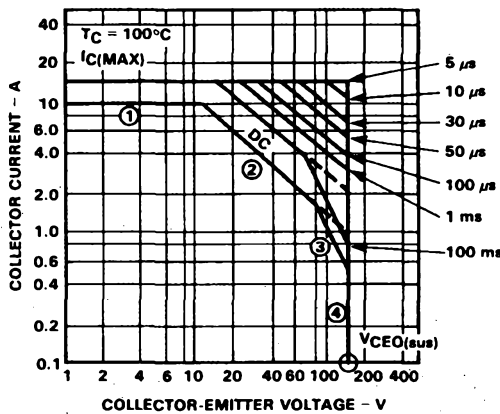

Fig. 5-1. Typical Safe Area
In a typical safe area diagram, *Figure 5-1*, collector current  $I_C$  is shown as a function of collector-to-emitter voltage  $V_{CE}$ . Each curve is labeled with the duration of the on pulse – from the worst-case dc condition to a minimum duration of  $5 \mu s$  – at  $T_C = 100^\circ C$  and a 1% duty cycle. The four factors limiting the dc forward-biased SOA of a particular power transistor are the collector current (1), thermal limitations (2), second breakdown limitation (3), and  $V_{CE(sus)}$  (4).
Power dissipation at high voltages is limited by second breakdown, boundary (3) in *Figure 5-1*. Under second breakdown conditions, the output impedance changes almost instantaneously from a large value to a small limiting value. This condition is distinguished from normal transistor operation in that once it occurs, the base no longer controls normal collector characteristics. Physically, second breakdown is caused by localized current concentrations resulting in uncontrollable generation and multiplication of carriers causing a sudden reduction of collector impedance. As the duration of this phenomenon exceeds the thermal time constant of the area, the transistor is irreversibly damaged. The forward-bias second breakdown current  $I_{SB}$  is defined as the current at the onset of second breakdown. To increase the  $I_{SB}$  rating of a power device, wide base-width and uniform base-dopant concentration are key factors. Wide base width improves second breakdown capability in three ways. First, it reduces intensity of the transverse electric field; second, a wide base promotes fanning out of the current before it reaches the collector-base junction, thus tending to eliminate generation of hot spots; third, it also acts to thermally isolate the emitter-base junction from the hot spots generated in the collector base region, thus tending to prevent thermal runaway. Uniform base doping such as obtained by the Fairchild multiple epitaxial process, utilizing epitaxial base material, improves second breakdown capability by reducing the transverse electric field in the base.
So far, discussion of forward-biased safe area has been limited to dc operation. Another forward-bias operating mode, namely, pulsed operation, must be considered. Refer to the typical safe area diagram in *Figure 5-1*. Very high peak power dissipation is possible during pulsed operation. For example, peak power of 360 W at 60 V is permissible for a pulse width of 0.1 ms, compared with maximum power of only about 115 W at 60 V for dc conditions. This high peak power capability arises from the inherent thermal capacitance of the device which enables it to absorb short bursts of energy without exceeding the maximum junction temperature or going into second breakdown. If the time between power pulses is relatively long (low duty cycle), most of the stored thermal energy is dissipated before the next power pulse arrives; thus, temperature build-up in the device is prevented. As indicated in *Figure 5-1*, allowable peak power increases as pulse width decreases. This follows from the fact that total energy absorbed is equal to the product of power and time. If the time duration of the pulse decreases, peak power can increase without increasing total energy absorbed.